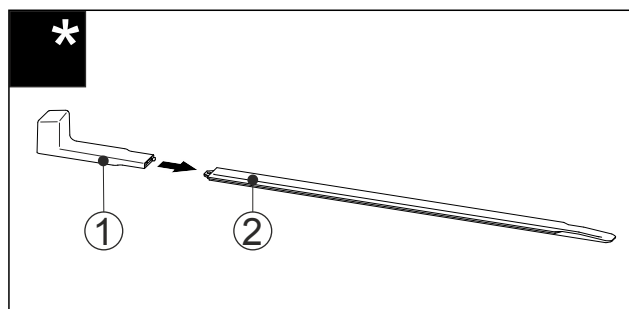

Fig. 55
- Attach the installation handle Fig. 55 (1) to the levelling rail Fig. 55 (2).